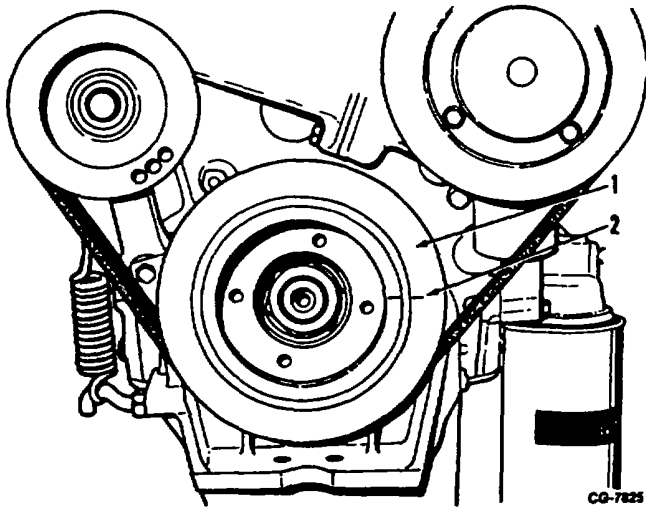

Figure 111.
- 2. Inspect alignment of inertia member (outer iron ring) with hub Figure 111.